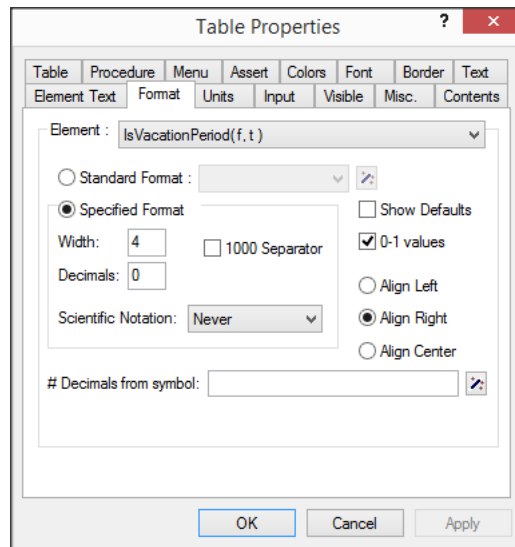

Figure 11.10: The **Format** tab of the **Table Properties** dialog box
- ▶ select the **Format** tab (see Figure 11.10),